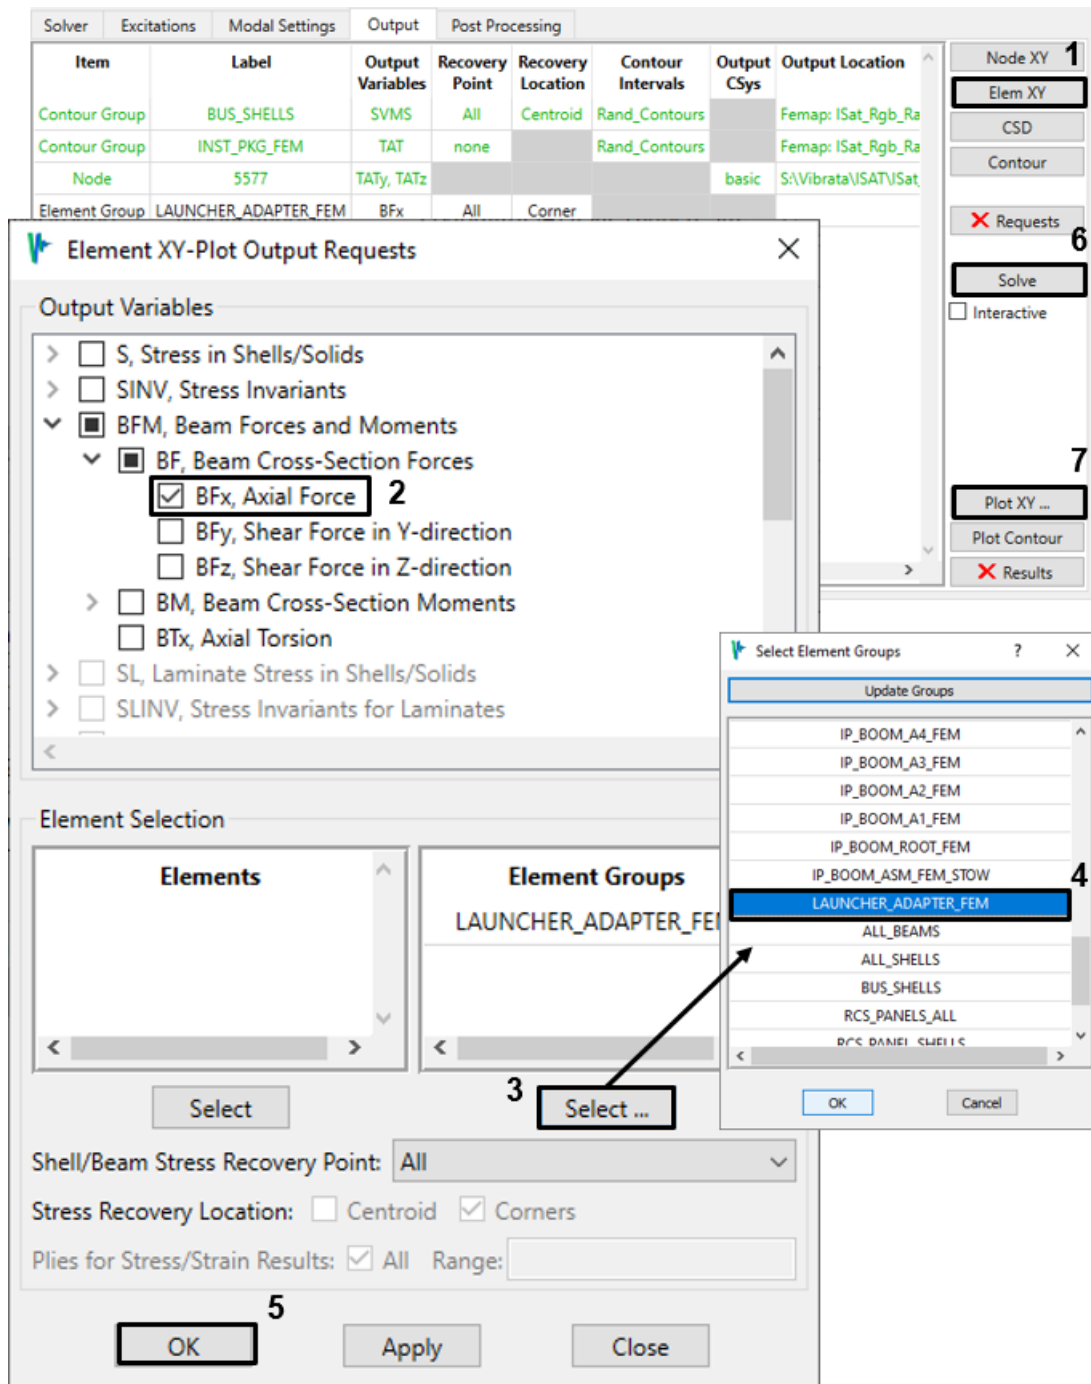
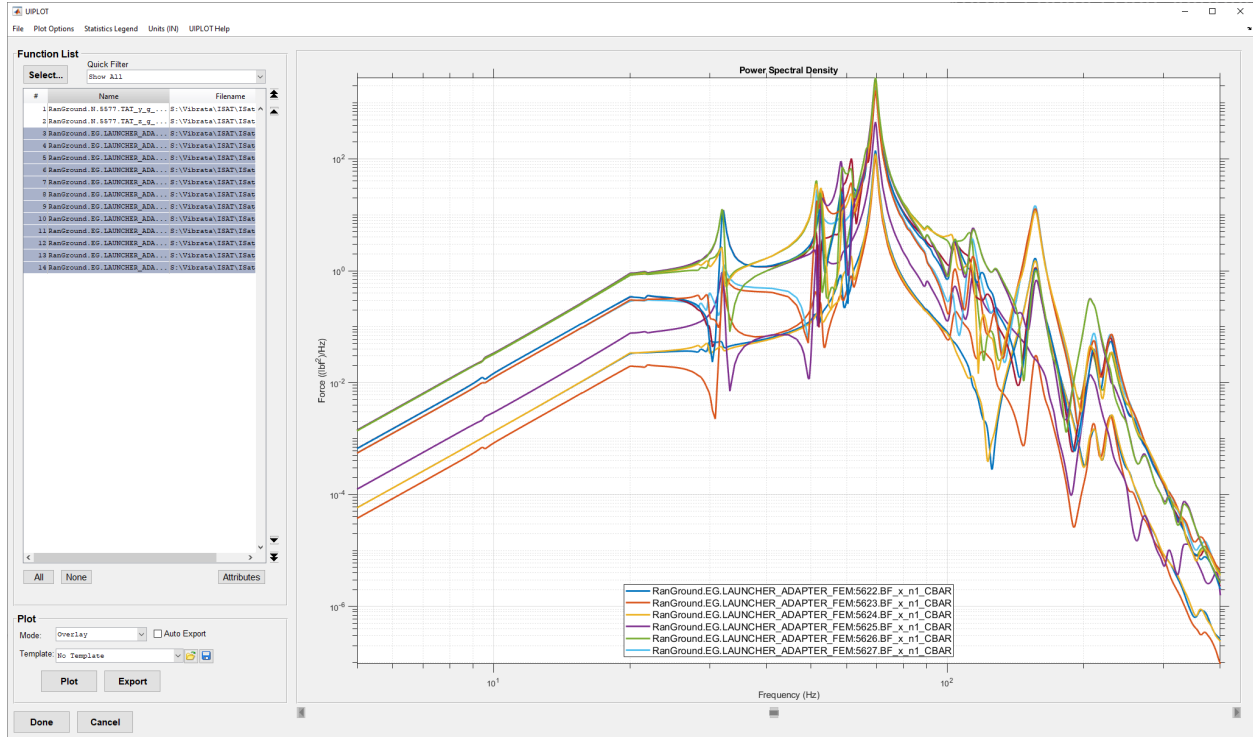

Figure 4-50. Request axial forces in the launcher adapter legs.
Figure 4-51. Axial forces in the launcher adapter legs, rigid base.
9. It is also important that we not exceed allowable loads in the launcher adapter legs. Request axial force responses for the elements in group "LAUNCHER_ADAPTER_FEM" (Figure 4-50). Solve and plot (Figure 4-51). The RMS values, along with other statistics about the functions, can be displayed using the *UIPLOT* dialog's *Statistics Legend* menu. Note that element 5632 has the largest RMS value.